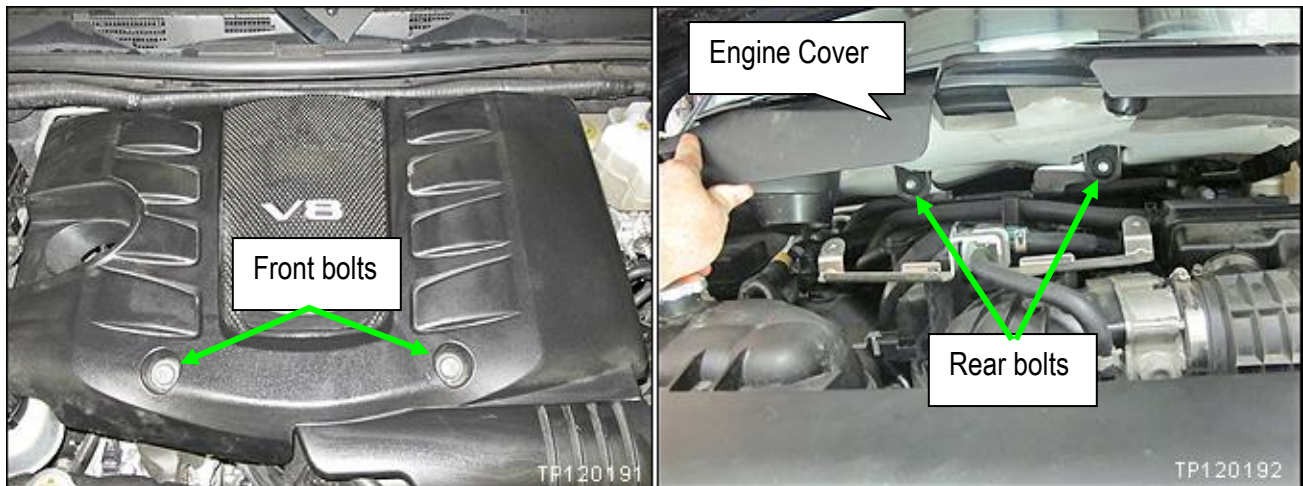

Figure 1
5. Remove the engine cover (see Figure 1).